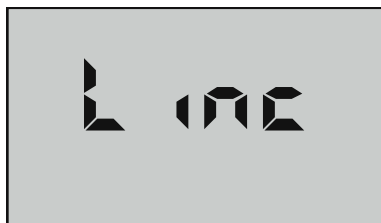

Figure 27
3. Press **MR** arrow key until the menu “**Linc**” appears (see Figure 27).
2. Press  key until the menu “**Linc**” appears (see Figure 27).